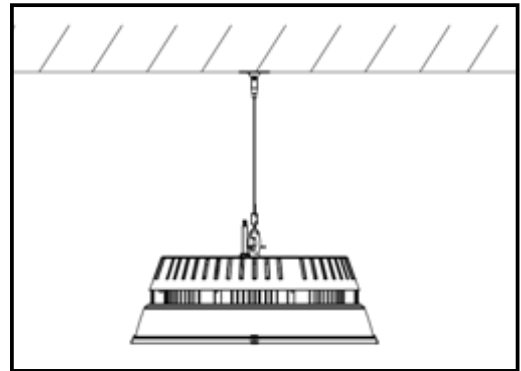

Figure 4
5. Inspect the suspension-line head and make sure it is perpendicular with the fixture (Figure 4)